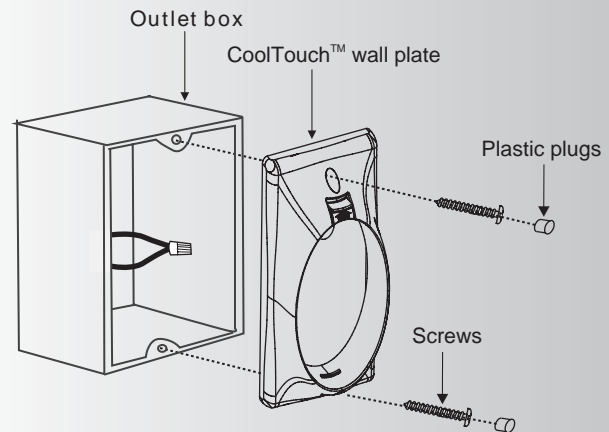

Fig. 25
Step 2. Install the CoolTouch™ wall plate to the existing wall outlet box with 2 screws provided. Then place the two plastic plugs into the wall plate. (Fig. 25)